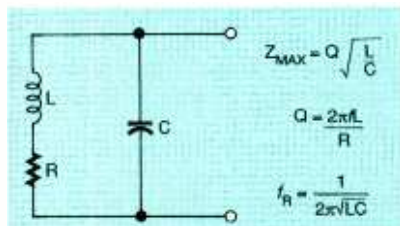

FIG. 2—THE OSCILLATOR'S OPERATION can be best understood by examining this simplified equivalent circuit of a parallel-resonant tank.
**FIG. 2— AN ABSOLUTE VOLTAGE MEASUREMENT USING OFFSET** is shown above. The offset voltage is the vertical difference between earth ground and graticule center. This has been set to coincide with the High value measured by the oscilloscope measurement system. The Max measurement is reading the peak value. The instrument has a  $\pm 2\%$  AC gain error, but using offset, the error specification on these measurements is reduced to  $\pm 1.23\%$ .
Absolute voltage measurement accuracy is a combination of gain, DC balance, and offset accuracy. On many DSOs, the accuracy calculation is complex if the measured voltage level is not located at center screen. The accuracy calculation is much simpler if you use the offset control voltage to bring the measured level to the center horizontal graticule line. At this point, only DC balance and offset accuracy are important. The offset control voltage is very precise—plus or minus 0.2 or 0.4 percent in Tektronix instruments. Don't be afraid to overdrive the oscilloscope by running the unmeasured waveform parts off screen (Figure 2).